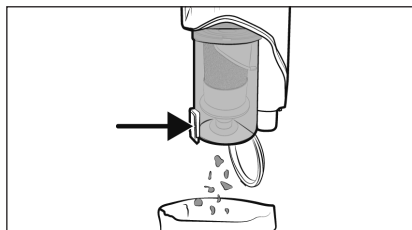

Fig. 16
- 1) Hold the dust container **7** in a waste bin and press the dust container lid release button **8**. The dust container lid **9** opens and the contents are emptied into the waste bin (see Fig. 16). Then close the dust container lid **9**.